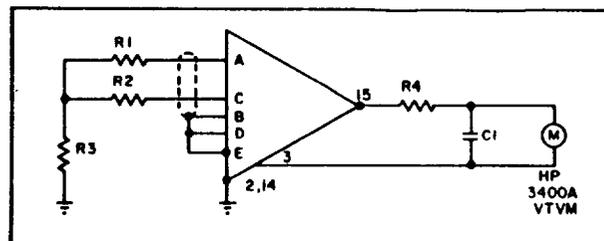
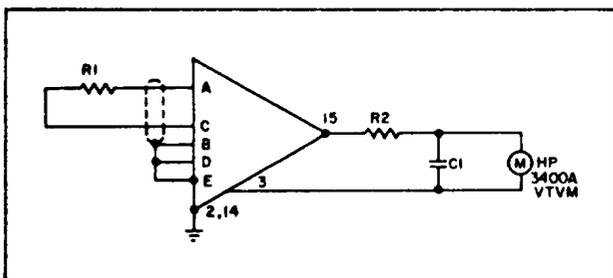

Figure 6-6. Noise Test Circuit
Figure 6-7. Noise Test Circuit (With Multipliers)
- 1) Connect the amplifier as shown in Figure 6-6. R1, R2, and R3 are wirewound or metal film resistors. R1 and R2 are 0-1000 ohms, and R3 is 0-100K
- 1) Connect the amplifier as shown in Figure 6-7. R1 is a 0-10K ohm wirewound or metal film resistor. R2 is the same as R4 in Figure 6-6.
- 2) Repeat steps (2), (3), and (4) of the previous procedure.
- a. Connect the amplifier as shown in Figure 6-6 (Noise Test Circuit) with R_1 , R_2 , and $R_3 = 0$.